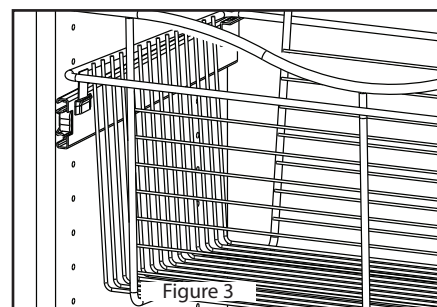

Figure 3
5. Pivot the basket down so that the tabs on the basket are inserted into the slots in the slides as shown in Figure 3.